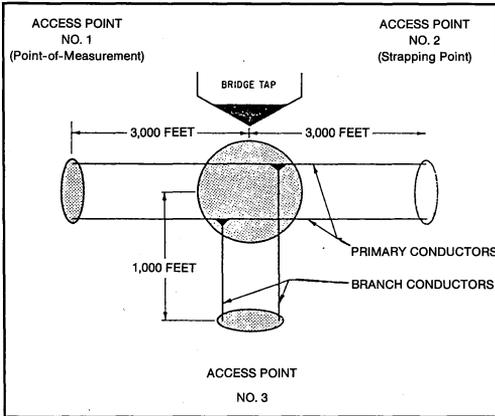

FIGURE 3
- In Figure 3, the distance-to-strap is 6,000 feet (DISTANCE MULTIPLIER set to **black** — x100 — fullscale reading of 10,000 feet on upper scale. Suppose the distance-to-fault readout is 1,500 feet. The instrument tolerance is $\pm 1\%$ of fullscale; thus, the **maximum** variance is ± 100 -feet. To allow for environmental variations, open primary conductors 1,700 feet from access point #1 and locate fault on the 3,000-foot range (DISTANCE MULTIPLIER set to blue—x10). If maximum accuracy is required, downrange instrument to the 100-foot range (DISTANCE MULTIPLIER set to **black** -x1); open conductors and locate fault to within ± 1 -foot of indicated reading.